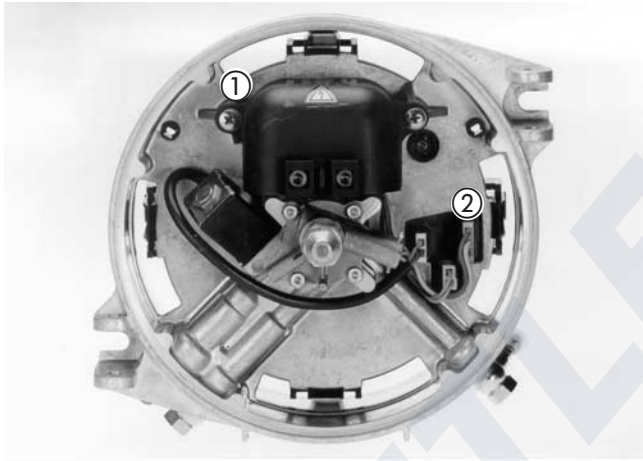

Figure 8
- Run the cable sections as shown in Figs. 8 and 9.